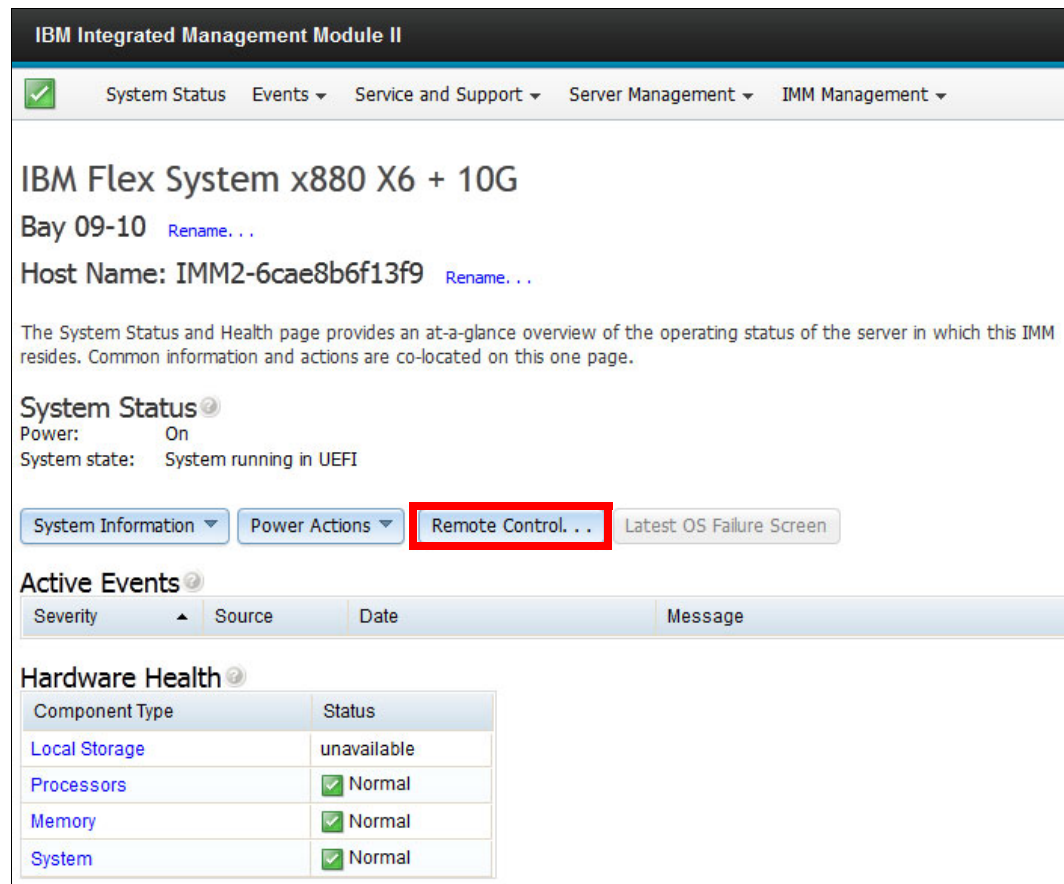

Figure 5-2 Remote control from the IMM2
2. On the System Status page, select **Remote Control**, as shown in Figure 5-2.